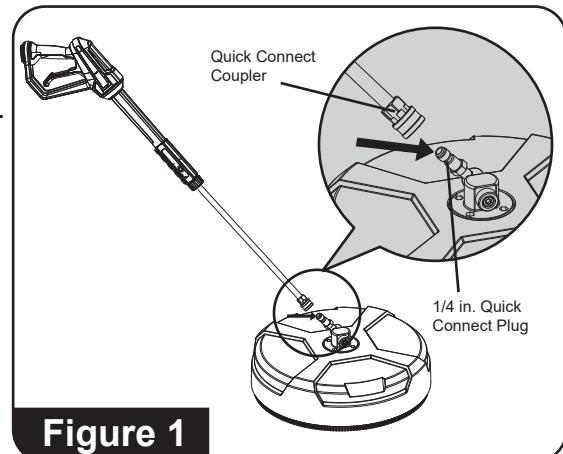

Figure 1
2. Attach the surface cleaner's 1/4 in. quick connect plug into the end of the pressure washer wand (See Figure 1).